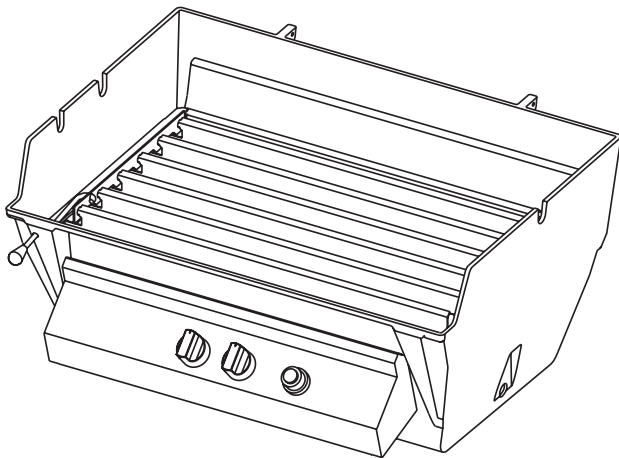

Figure 6
- Installation of smoker shutter is completed. Refer to Figure 6.